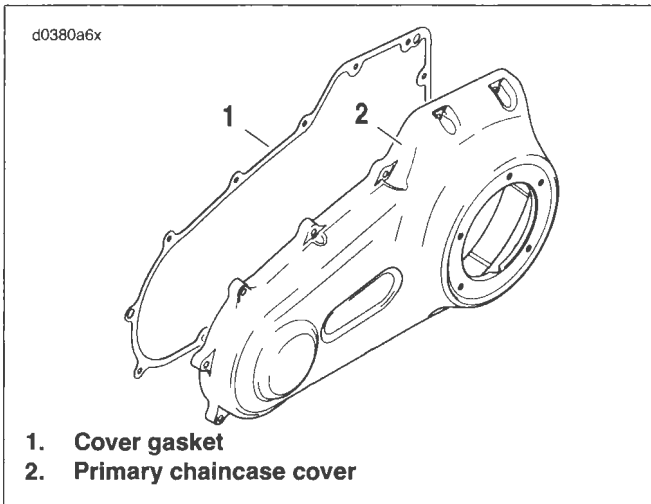

Figure 6-2. Primary Chaincase Cover Gasket
1. See Figure 6-2. Install **new** cover gasket (1).